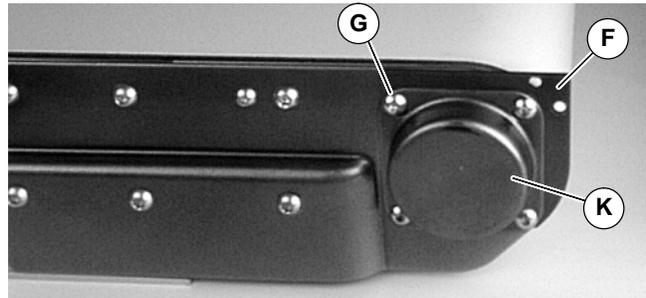

Figure 7
4. Install transfer side plate (F of Figure 7) and end cap (K) using new screws (G). Tighten screws to 28 in-lb (3 Nm).